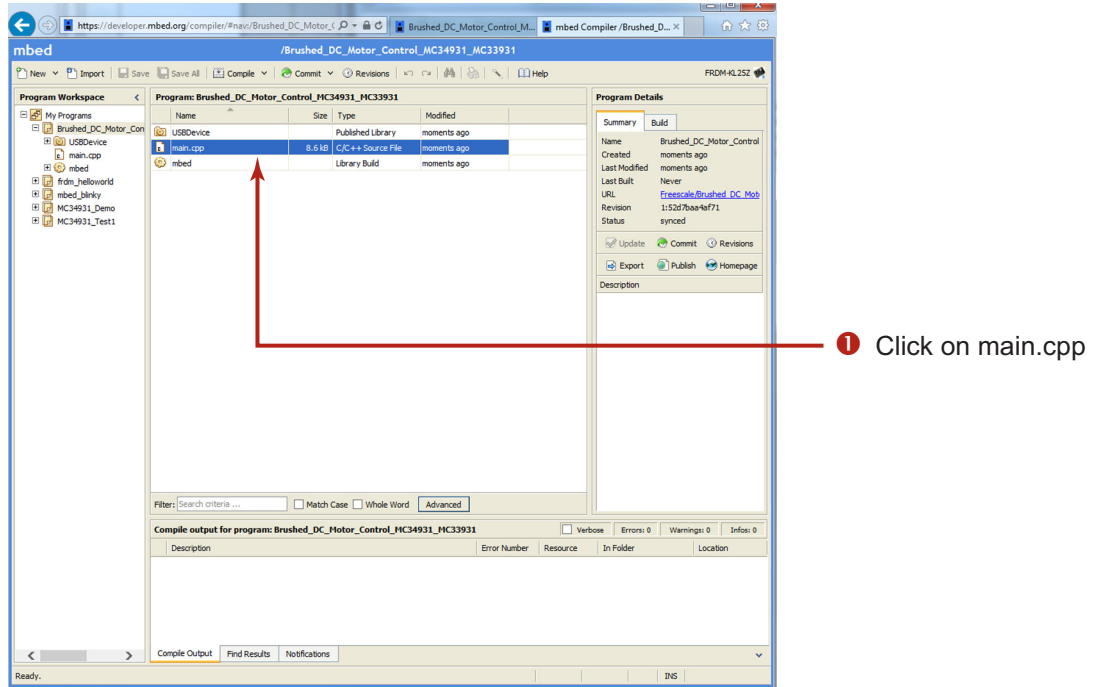

Figure 18. mbed Compiler Select Screen
5. When the import completes, the mbed compiler screen should look like Figure 18. Click on the **main.cpp** item.